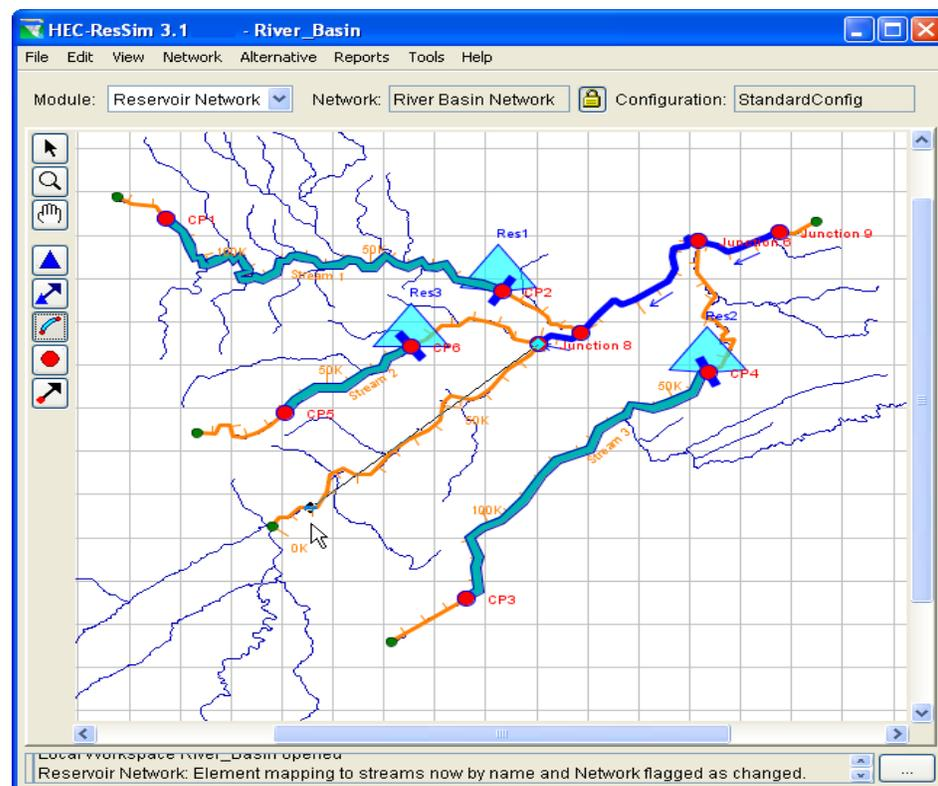

Figure 16. Drawing Routing Reaches
- **Draw Routing Reaches.** Select the routing reach tool . Hold down the **CTRL** key and click anywhere on the stream to place the upstream end of the reach. Release the **CTRL** key and move the mouse along the stream and click again at a lower station on the stream to place the downstream end, as shown in Figure 16. Routing reaches must be connected to an existing junction. If you start or end a reach where there is no junction a junction will be created, and you will be prompted to first name the new junction and then name the new reach. (Note: tributaries cannot connect to the middle of a reach; they must connect to a junction.)